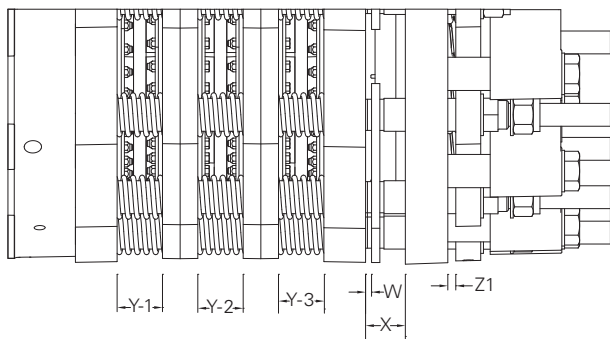

Figure 6
- Verify that the air pressure has been fully exhausted from these chambers by checking any in-line gauges (they should read zero pressure), and also by inspecting specific gaps between components as noted below. Refer to Figures 6 and 6A for the corresponding gap locations.
- Measure gaps between the components at positions W, X, Y-1, and if applicable, Y-2, and Y-3. See Figures 6, and 6A for the location of those gap positions.